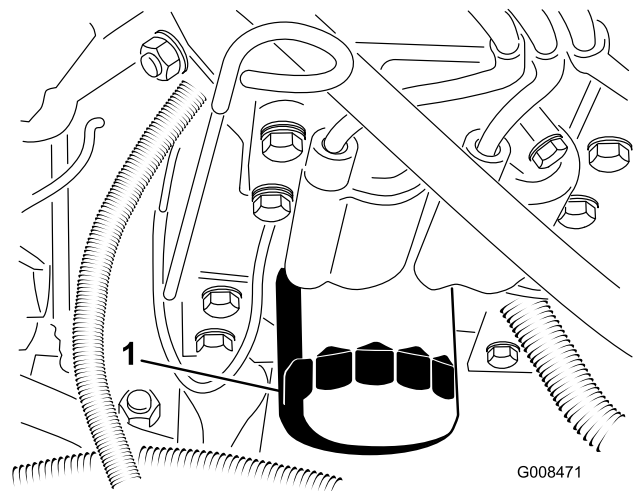

Figure 41
5. Remove and replace oil filter (Figure 41).